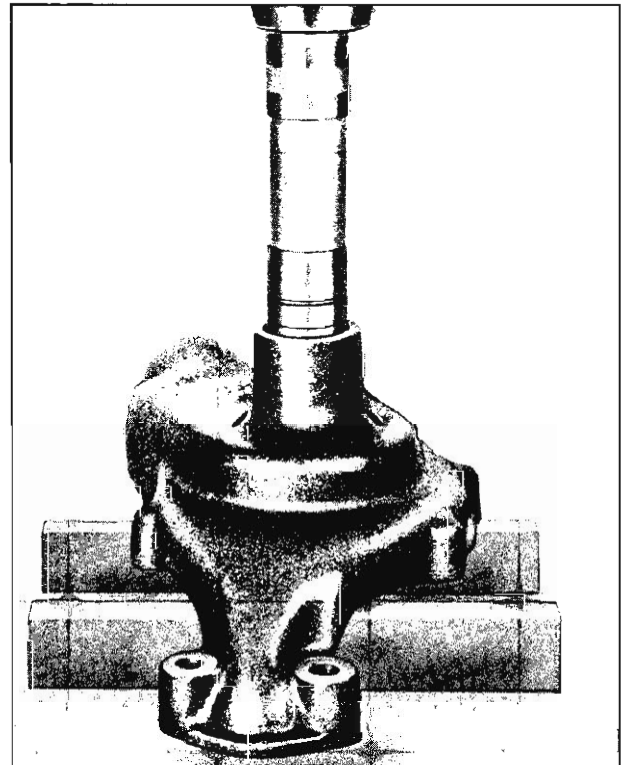

Fig. 199—Installing Shaft and Bearing Assembly (235 and 283 Cu. In. Pump)
1. Install pump shaft and bearing assembly into pump body bearing bore, applying pressure to outer race until it is flush with front of pump body, (fig. 199) on 235 and 283 cubic inch engine water pumps.